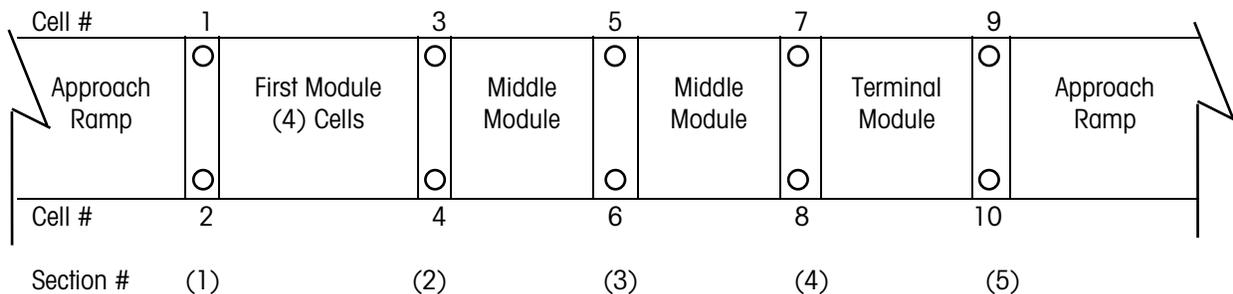

Figure 10-1: Recommended Load Cell Numbering
2. Access the setup mode of the terminal and observe the raw counts displayed for each load cell in the scale. Refer to the 10-cell layout in Figure 10-1 for the recommended load cell numbering scheme. Note that load cells 1 and 2 make up Section 1, cells 3 and 4 make up Section 2, and so on. Make sure that you know the proper location of each cell in your scale and that cells 1, 2, 3, and 4 are supporting the first or starting module of the scale.